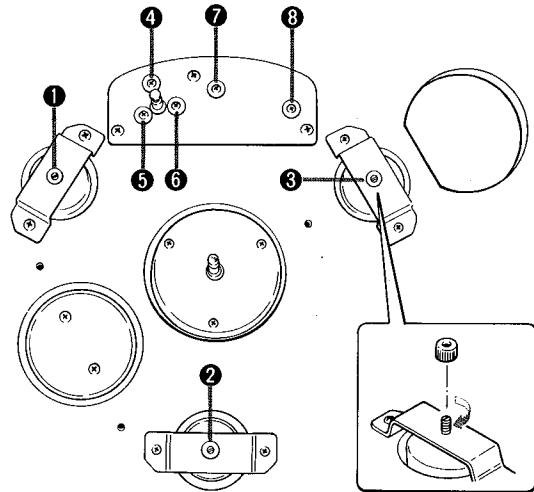

Fig. 4
**④ CHASSIS ASSEMBLY REMOVAL**
1. Remove the pick-up assembly. (Refer to step ③)
3. Remove nuts ① to ③ in Fig. 4 and then remove the chassis assembly by turning the central screws of nuts clockwise.
**⑤ MOTOR REMOVAL**
2. Remove screws ④ to ⑥ in Fig. 4 and then remove the motor.
**⑥ POWER TRANSFORMER REMOVAL**
2. Remove screws ⑦ and ⑧ in Fig. 4 and then remove the power transformer.